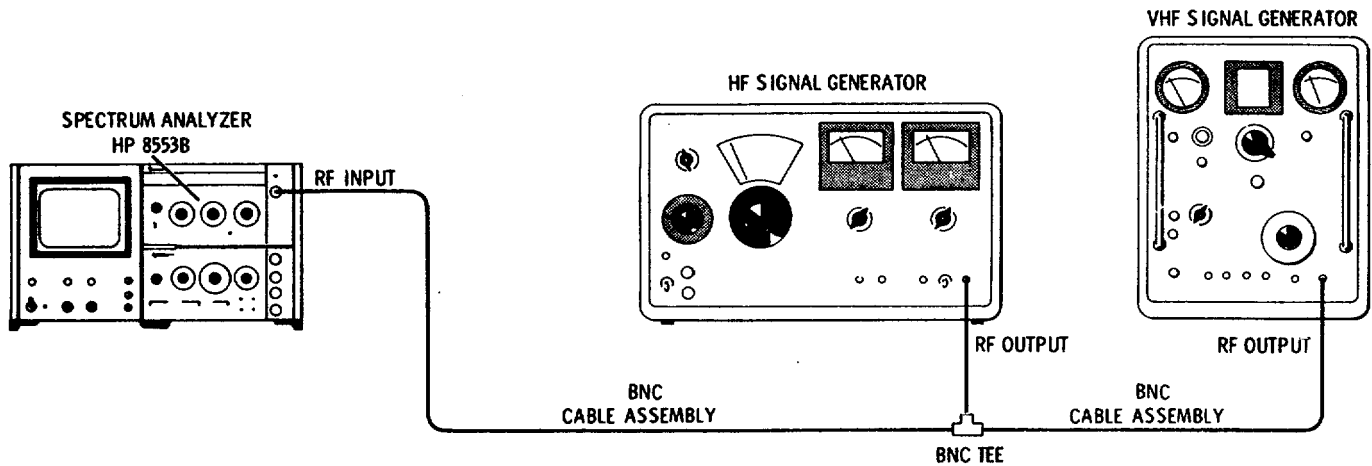

Figure 4-12. Intermodulation Distortion Test
1. Connect the test setup shown in Figure 4-12 and make the following control settings: